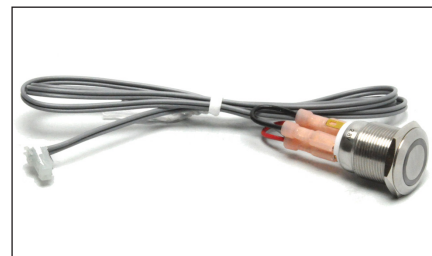

Figure 45. Stainless Steel PSB.
- If PSBs are not installed, plug a test PSB into the respective ports or use the shorting method (see Figure 45 on page 28) on the switching modules to make sure that the products are currently selected to play.